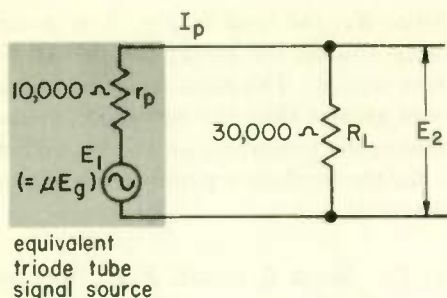

Fig. 4 When a triode is used as a voltage amplifier, R_L is commonly greater than R_p .
4 SIGNAL VOLTAGE GAIN FROM A TRIODE TUBE . . . The plate resistance of a triode is far lower than that of a pentode. It is quite practical and common to use a value of load R_L with a triode that is higher than r_p , as in Fig. 4. The triode tube thus performs more like a constant-voltage source, and as a result the amplification factor μ is the tube parameter that determines the voltage gain of a triode.
To find the voltage gain in Fig. 4 we first find I_p and then find E_2 :
3. Refer to Fig. 4. If μ is 35 and the signal voltage applied to the grid of the triode is 4 V, the value of E_1 is (a) _____ volts. The value of I_p is (b) _____ milliamperes, and the voltage across R_L will be (c) _____ volts. The voltage gain A_v is equal to the ratio of the signal voltage across R_L to the signal voltage E_g and is equal to (d) _____.